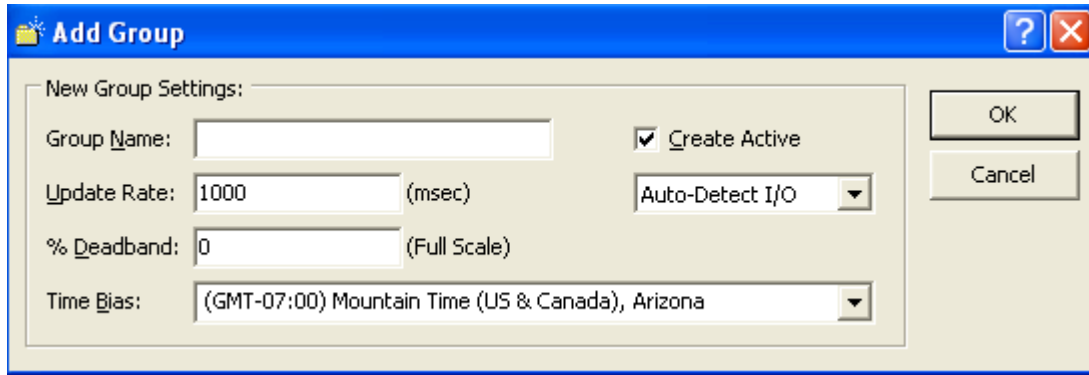

Figure 102 - Add Group Window
7. Select the **Add Group** option from the menu that appears. The **Add Group** window (Figure 102) appears.